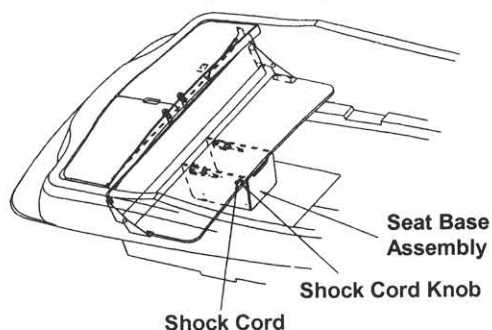

Figure K3: 170H/180H Sunsport and 170H LS Sunsport Benchseat
5. Secure the shock cords around the knobs on the seat base assembly. See Figure K3.